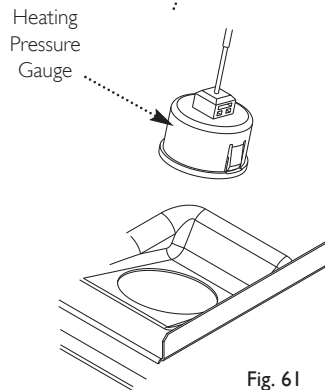

Fig. 61
13.15 Heating Pressure Gauge (Figs. 61 & 61a)